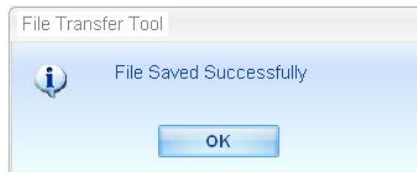

Figure 3-11: Success confirmation dialog
- When the file transfer completes successfully, a pop-up box, as shown in Figure 3-11 appears to confirm that the transfer was successful. Dismiss this dialog by clicking "OK" and return to the **Home** screen.